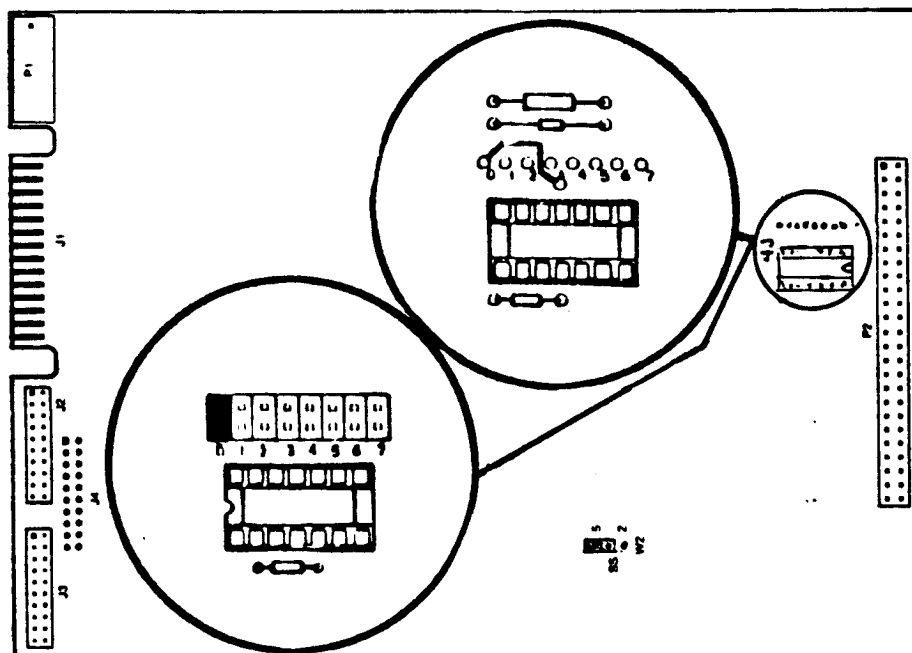

Figure 1
The 670-8437-00 rolled to -01 when the wire jumper at board location 4J, to select a device address, changed to a double row of pins and a moveable jumper, see figure 1. Xebec rolled the board assembly number from 104526 to
Configuring the Winchester controller is a matter of selecting the proper device address. The default device address is zero (0) as shown in the two exploded views on the Winchester controller board, figure 1. However, when connecting multiple devices, each device must be at a different device address. This requires the user to choose the device address. Device address 7 is always reserved for the host controller, such as the MSIB I/F (Option 45).
Sector size should be set for 512 bytes, strap W2 (on the 104526) or W2 (on the 104527) should be set at 5, as shown in Figure 1.